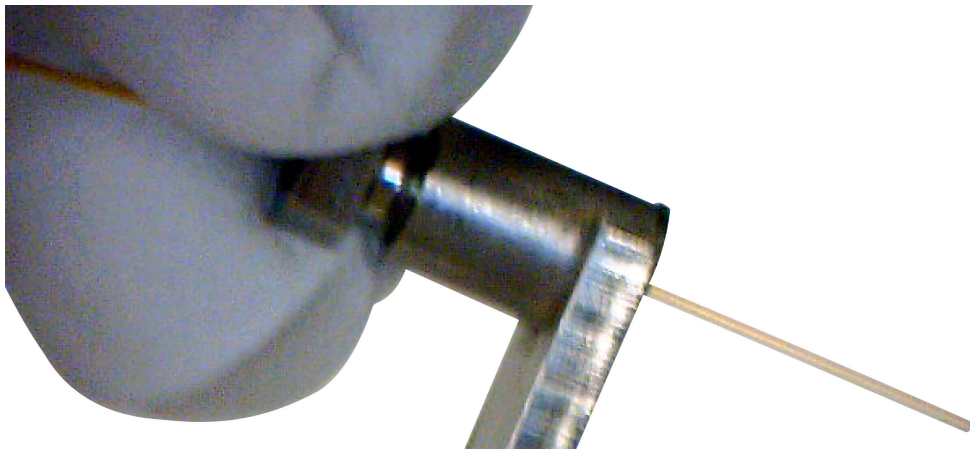

Figure 3 Thread the internal nut onto the swaging wrench
- 2 Thread the internal nut into the swaging wrench with the column protruding out of the back of the wrench (see Figure 3).